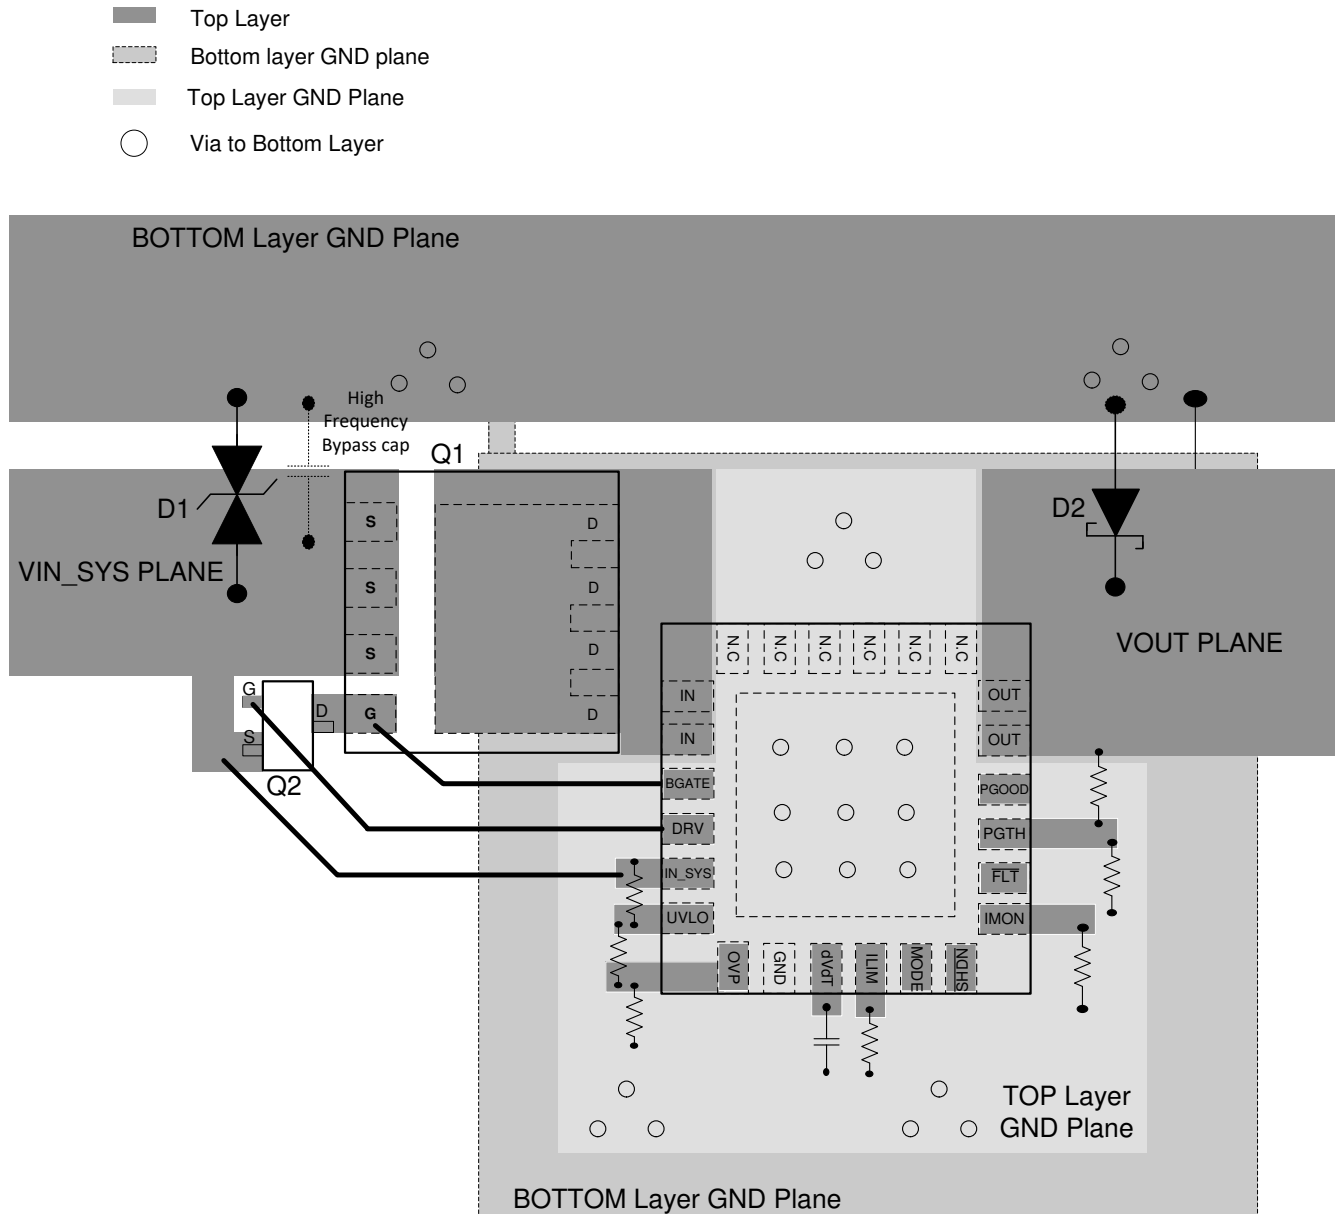
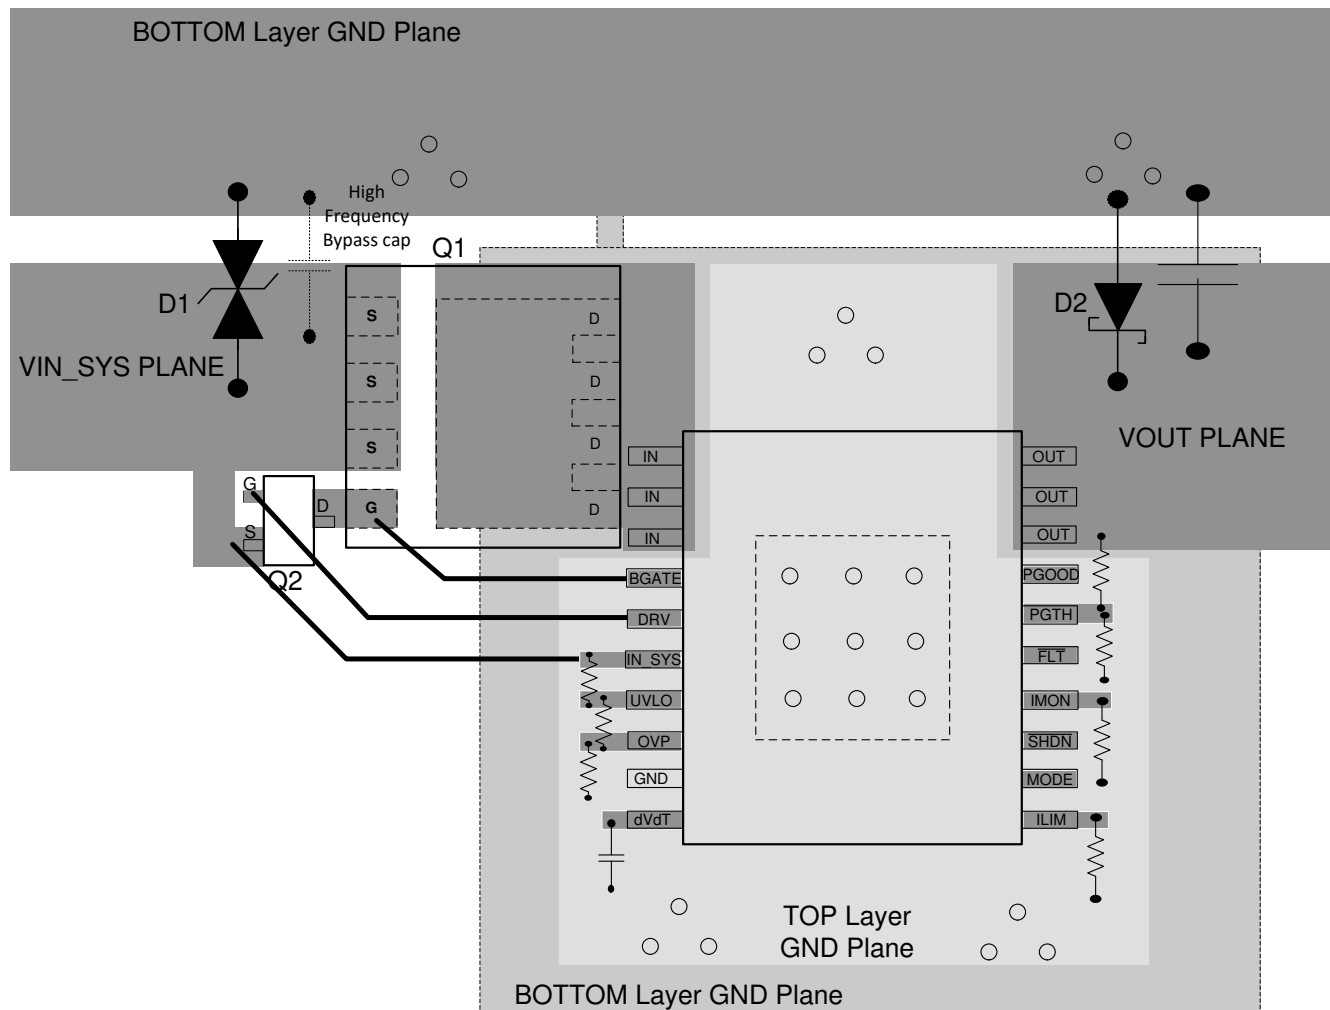

图 9-18. Typical PCB Layout Example with QFN Package with a 2-Layer PCB
图 9-19. Typical PCB Layout Example with HTSSOP Package with a 2-Layer PCB
- The external FET Q1 must be placed with DRAIN close to the  $V_{\text{IN}}$  pins of the IC and connected through a plane. The fast pulldown switch Q2 DRAIN and SOURCE must be placed very close to the GATE and SOURCE terminals of Q1 with very short loop. See Figure 9-18 and Figure 9-19 for a typical PCB layout example.